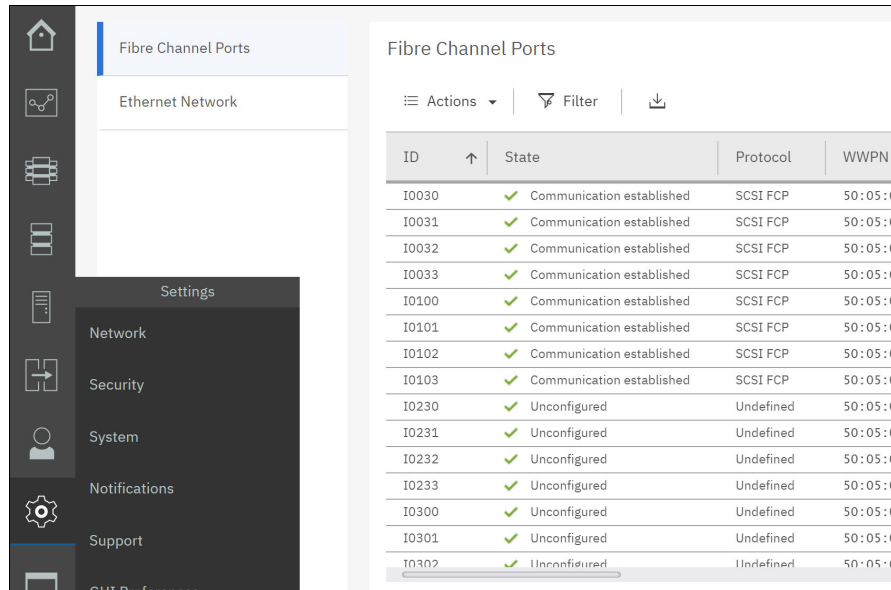

Figure 9-52 Fibre Channel Ports window
1. From the DS GUI left navigation menu, click **Settings** → **Network** and select **Fibre Channel Ports** to open the Fibre Channel Ports window (Figure 9-52 on page 265).